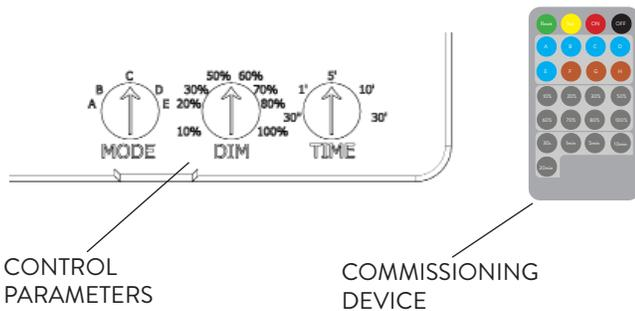

FIG. 17
- The Control Parameters are adjustable on the Sensor or by a wireless Commissioning Device. The Control Parameters allow the user to adjust the Mode (A thru E), Dimming (10% thru 100%), and Time (30 sec thru 30 min) Level (Fig. 17). The Control Modes are given in more detail in the next column.